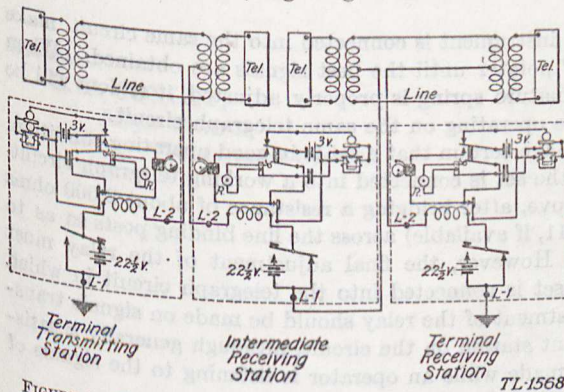

FIGURE 8.—Three-station circuit of telegraph set TG-5 operating over simplex telephone circuits.
e. When more than two stations are connected in one circuit, the operation is similar. The transmitting station sends current from its line battery through the line relays of all stations in the circuit causing their local circuits to operate in the manner described above. (See fig. 8.)
d. Three or more station circuit using ground return.—With a three or more station ground return circuit, the two terminal stations should have one of their line terminals connected to the ground and the other to the line as described in *c* above. At an intermediate or way station the two line wires are connected to the L_1 and L_2 terminals, as shown in figure 8. It makes no difference which line wire is connected to the L_1 or L_2 terminal. In this particular example the telegraph line circuit is simplex around an intermediate telephone switchboard.